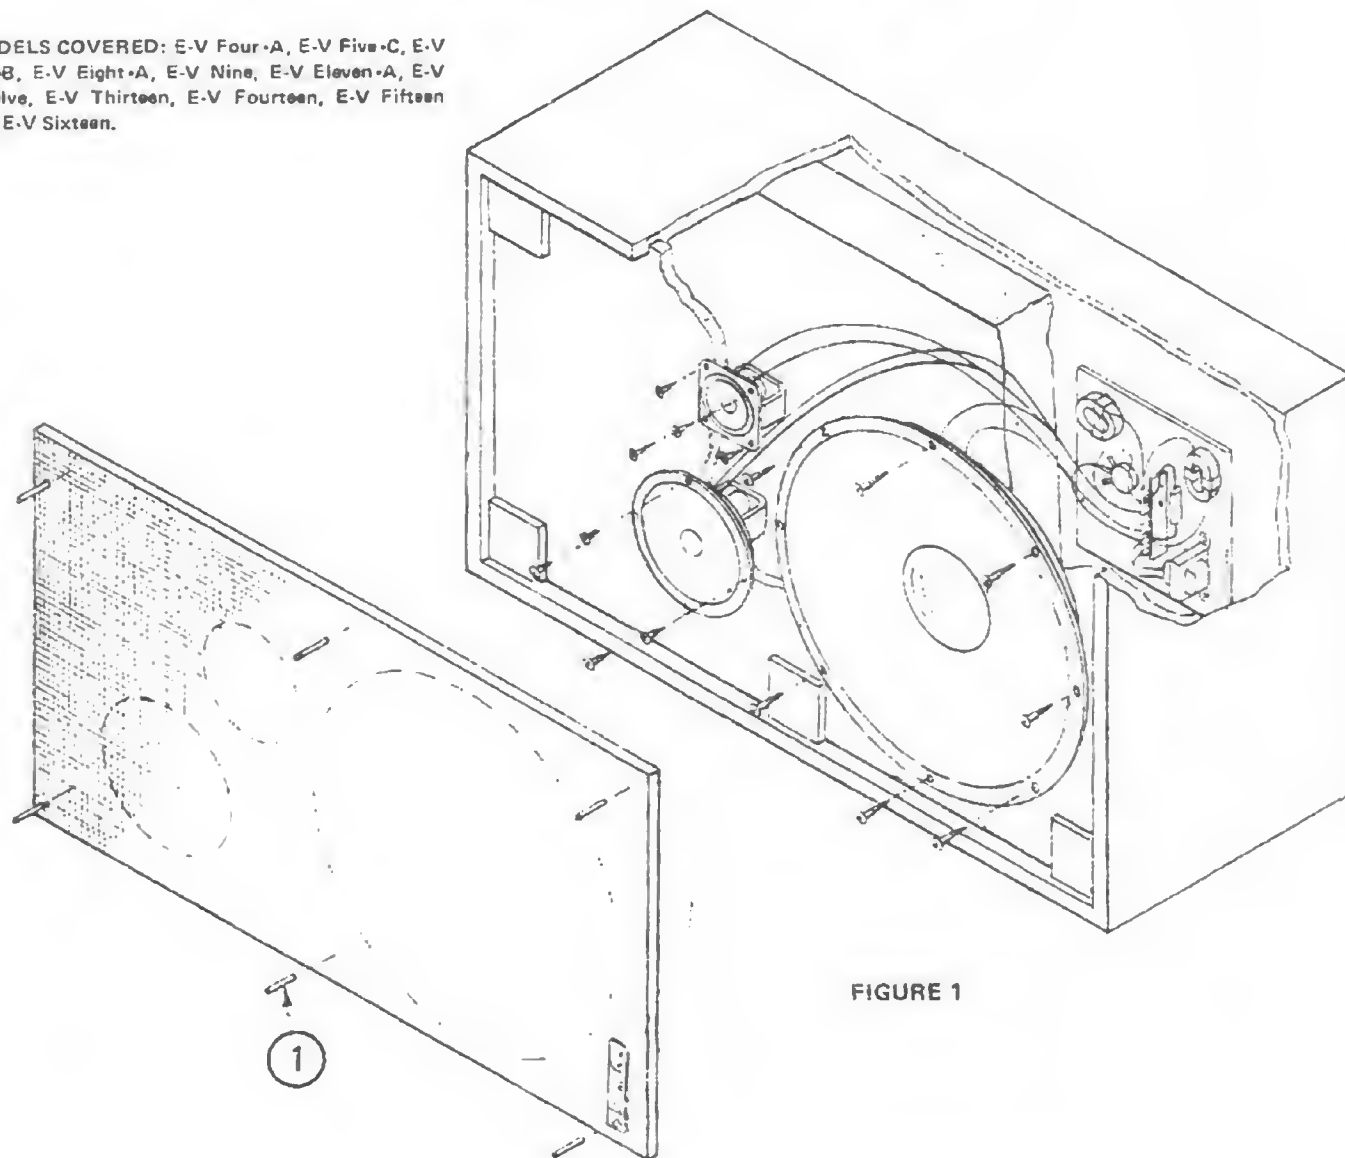

FIGURE 1
1. The Grille Assembly on all Electro-Voice front-loaded bookshelf speaker systems is secured with Spotnail Pins (1). Locate these pins in grille cloth web and carefully drive 1/4-inch into enclosure with small punch or nail (Figure 1). All models contain (6) six pins except E-V Eight-A, which contains (4) four pins. 1 1/4-inch should be sufficient to free the grille assembly from Spotnail Pins. Slight air leaks may develop if a pin punctures the inner enclosure space. The pins should be left in the enclosure if they are not to be reused. See Grille Cloth reassembly.)